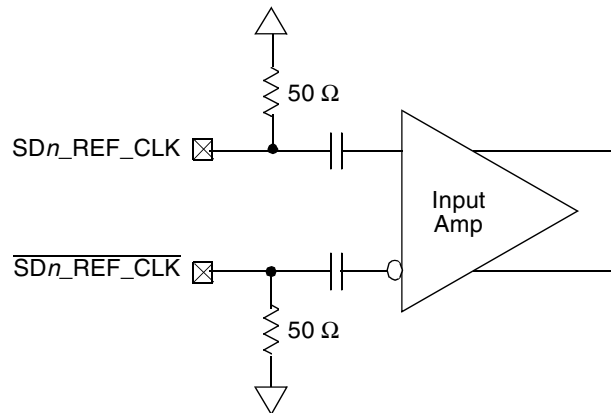

Figure 44. Receiver of SerDes Reference Clocks
Figure 44 shows a receiver reference diagram of the SerDes reference clocks. Characteristics are as follows:
- The SDn_REF_CLK and $\overline{\text{SDn_REF_CLK}}$ are internally AC-coupled differential inputs as shown in Figure 44. Each differential clock input (SDn_REF_CLK or $\overline{\text{SDn_REF_CLK}}$) has on-chip 50- Ω termination to SGND_SRDSn (xc0revss) followed by on-chip AC-coupling.